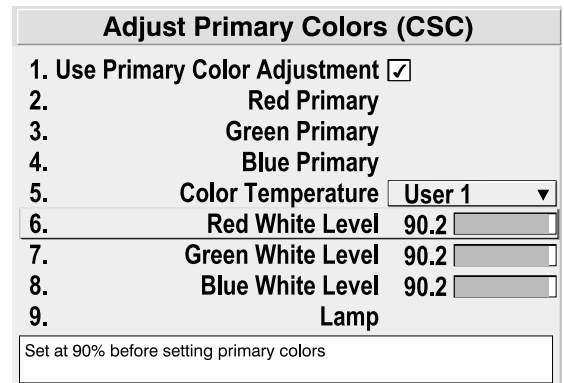

Figure 3.37. Start With a "User" Temperature and 90% White Levels
activated (instead of the usual default of 6500K applied when Primary Color Adjustment is **not** enabled). As in any color temperature menu, white levels for preset color temperatures cannot be changed. See Figure 3.37.
- 2c) **SET 90% WHITE LEVELS STARTING POINTS:** In the *Adjust Primary Color (CSC)* menu, set all White Levels to **90%** (note: appears as **90.2** in the menu). See Figure 3.37.